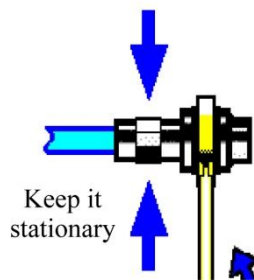

Fig. 3.6 Final Connection with Torque Wrench
Step 3: as shown in Fig. 3.6, complete the final connection by tightening with the torque wrench. Note that the torque wrench must not be beyond the initial break point. Use the auxiliary wrench to prevent the connectors from rotation.